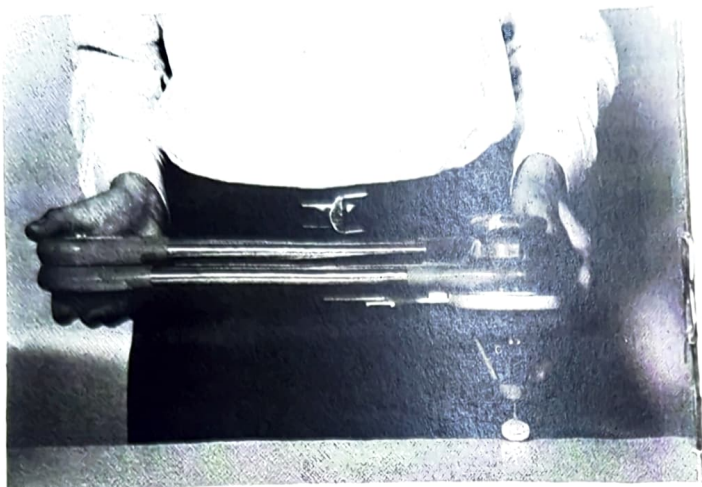

FIG. 1
1. Hold the machine as illustrated in Fig. 1, and place the anchor clamp over top edge of the board.